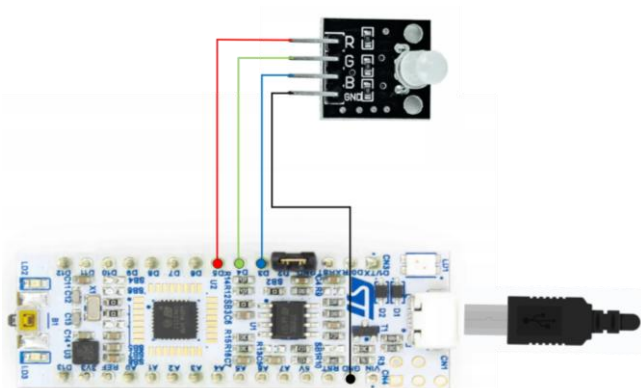

Fig. 1.1. Schematic for controlling RGB LED with STM32NUCLEO-L432KC.
The schematic is presented in Fig. 1.1. Step-by-step instructions for system assembly for are as follows.
- (1) Connect the ground pin from the LED module to the ground pin from the microcontroller, as it is shown in the schematic in Fig. 1.1.
- (2) Connect the microcontroller to the PC via USB cable.
(3) Open Arduino IDE. Install STM32 MCU based boards library from the Boards Manager in Arduino IDE. In Tools>Board choose Nucleo-32, in Tools>Board part number choose Nucleo L432KC.
(4) Copy the code below and upload it to the microcontroller.